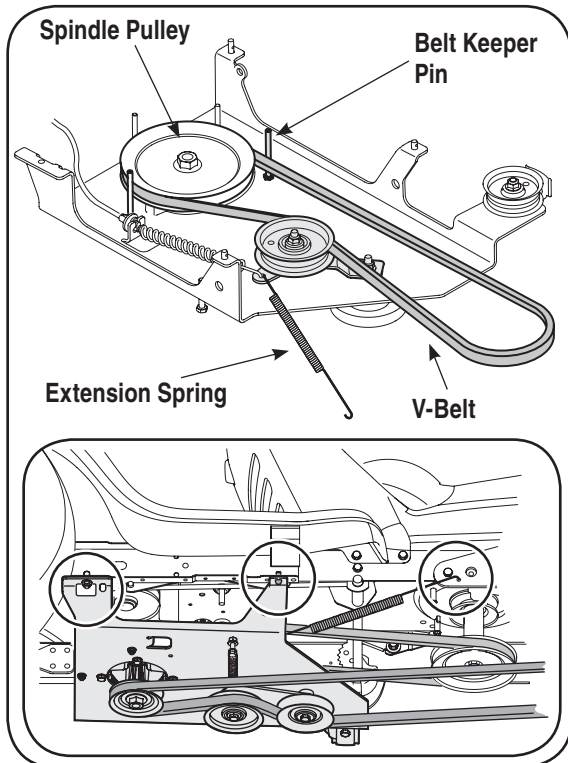

Figure 11
3. Locate v-belt part No. 754-0498 and the extension spring (Part No. 732-04237, which is .50" wide x 12" long) packaged with the loose parts in this carton. See Figure 11 for reference.
Route the belt around the spindle pulley, inside of the belt keepers and to the inside of the idler pulley. The spring will connect to the Idler bracket but you may install this once the undercarriage is mounted. Otherwise it could fall off or get in the way in the following steps. If you wish to connect this later, retain the spring for later installation. See the Figure 11.
Lift the undercarriage assembly up, inserting the weld pins on the assembly up through the aligning holes found along the tractor's frame rails. Fasten with hairpin clips and flat washers removed earlier. See inset image in Figure 11.
3. Connect the extension spring found in your units loose parts that was mentioned earlier. This spring connects to the idler bracket on the undercarriage assemble and the hole on the rear right-hand snow thrower mounting bracket. See Figure 11.
and through the pulley system as seen in Figure 11.